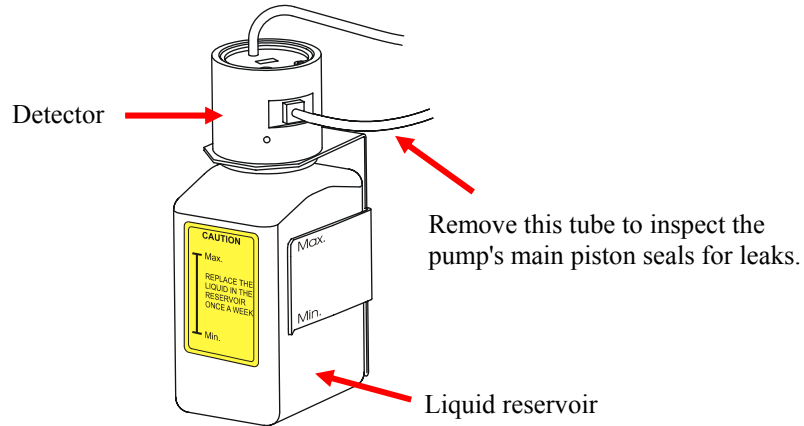

Fig. 45: Liquid reservoir of the rear-seal wash system
- Remove the tubing from the detector of the rear-seal wash system (→ Fig. 45). Remove some of the liquid by shaking the tube.